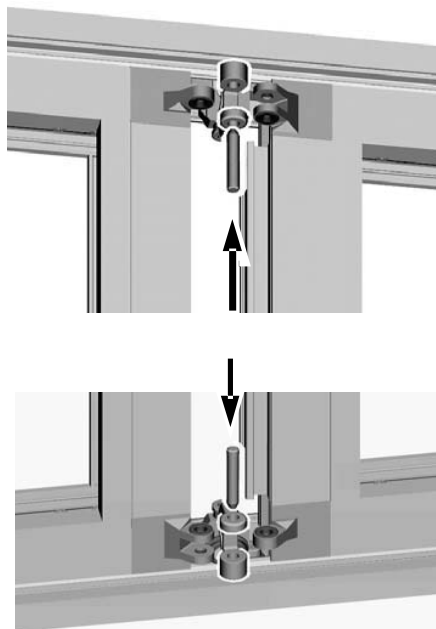

Fig. 3
4. Hang subsequent panel with runner assembly and guide roller retainer onto previous panel and secure by knocking in the hinge pins or fitting the screwed connection (in the case of top hung folding facades) (see Fig. 3).
5. Install all other panels according to direction of opening or order given on project drawing and in the same way as described under items 2 to 4.